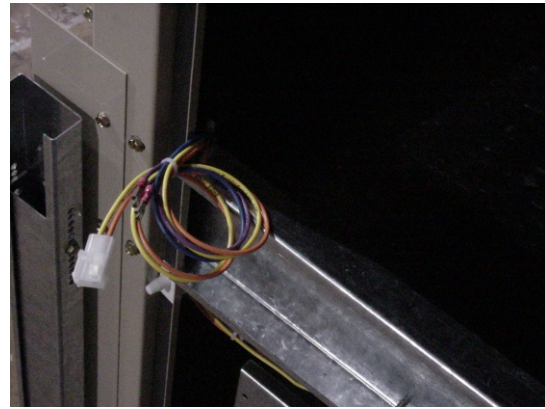

Figure 16
- 10- If the A7 enthalpy sensor was retained, locate the blue and purple wire harness on the top deck. Remove the intake air access panel and route blue and purple harness to the A7 enthalpy sensor harness and connect P104 to J193. Secure excess wiring. **See Figure 16 and Page 10** for field wiring diagram .